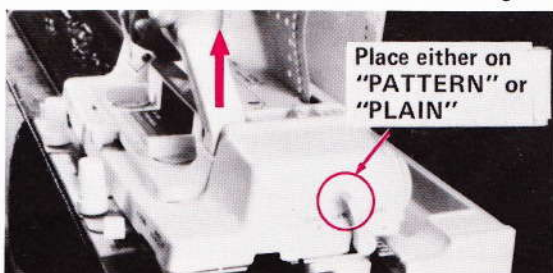

Fig. 226
5. Set clutch on 'pattern' or 'plain' as required (fig. 226).